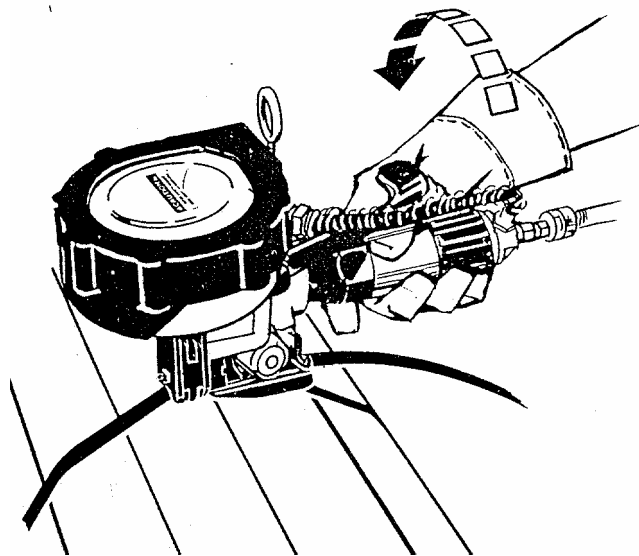

Figure 3
3. Remove thumb from handle and turn valve collar in the direction of the arrow. Tool will now tension the strap and come to a stall. If tool does not tension, the seal is not positioned correctly under the jaws. Usually a slight jiggle will center the seal. Do not turn off motor operating valve until after sealing has been completed. (See figure 3)